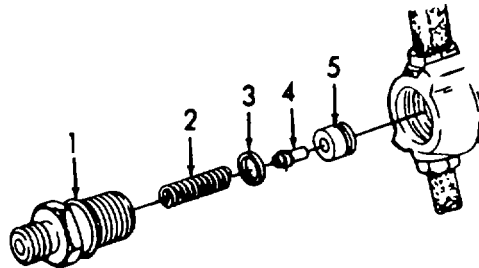
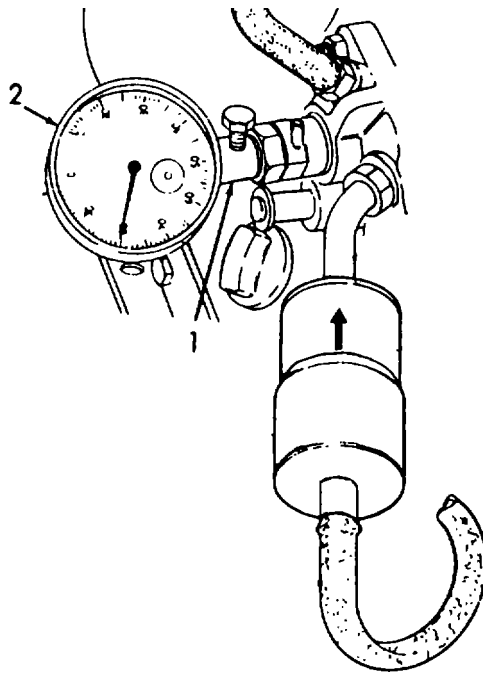

Figure 5-9. Delivery Valve Removal.
Figure 5-10. Spill Device and Dial Gauge Installation.
- (9) Install new packing (7) and vent valve (6), packing (5), and hose connection (4).
- (10) Remove fuel shutoff clamp and install hose (3) and hose (2).
- (11) Connect fuel pressure line (1).
- d. Adjustment. (Refer to figure 5-9).
- (4) Refer to figure 5-9 and insert washer (3) and valve body (5) into spill device (1, figure 5-10).
- (5) Thread spill device into injection pump and adjust with spill pipe in up position, and then secure in place.
- (6) Install dial gauge (2, figure 5-10) with adapter pin 2.68-inch (68 mm) long attached, into spill device, and pre-tension approximately 1 mm (one rotation of dial indicator hand).
- (7) Remove fuel shutoff clamp from fuel hose.